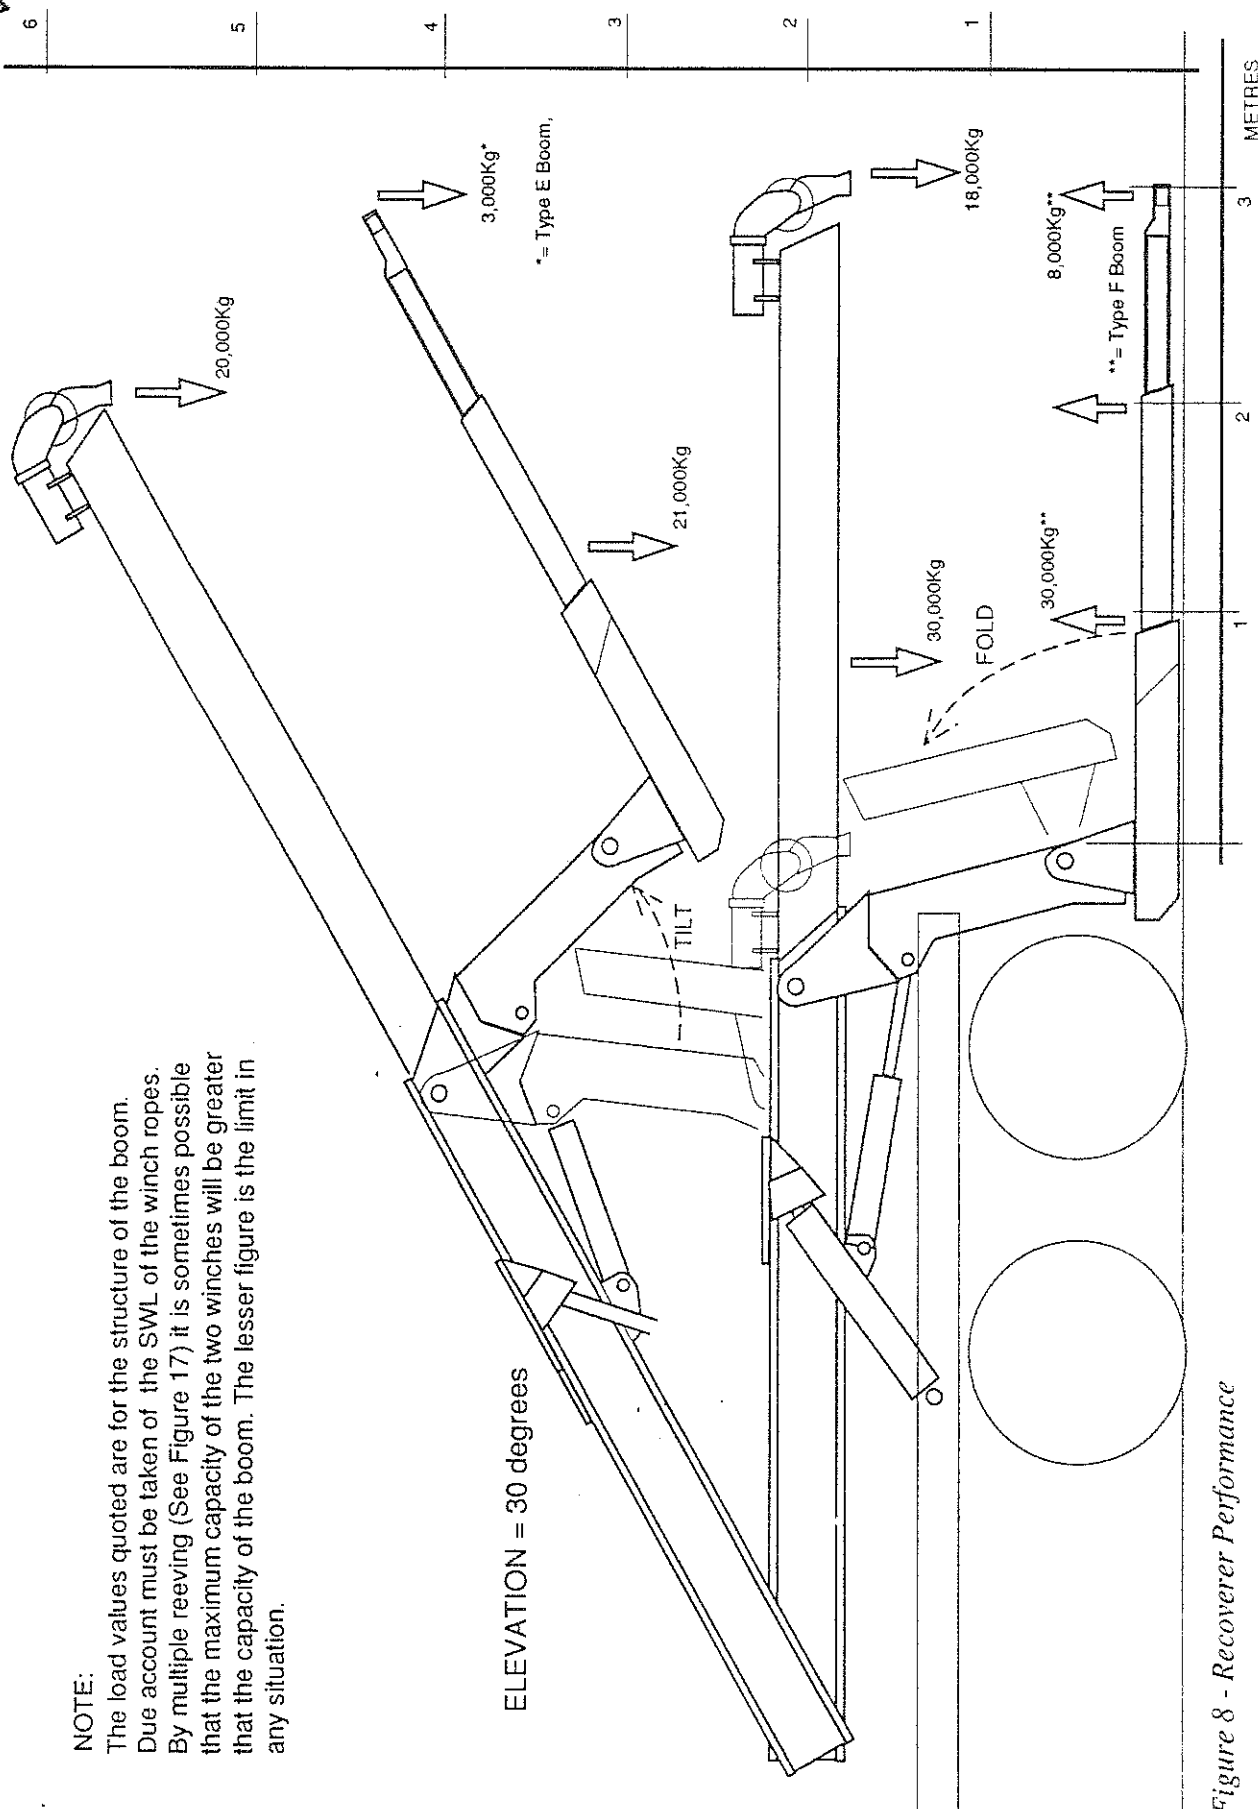

Figure 8 - Recoverer Performance
2.1.10 Using the Boom Out Push Switch, operate the Telescopic Boom fully out and check for leaks. Ensure that the extension is that specified in Figure 8.